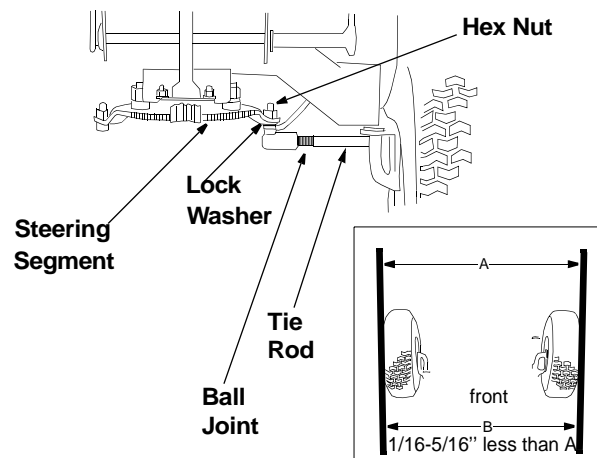

Figure 14
- Remove the 3/8" hex nut which holds the ball joint to the steering segment. See Figure 14.
- Adjust the ball joint in or out until the wheels toe-in approximately 1/16-5/16" (Dimension "B" should be approximately 1/16-5/16" less than dimension "A"). See Figure 14.